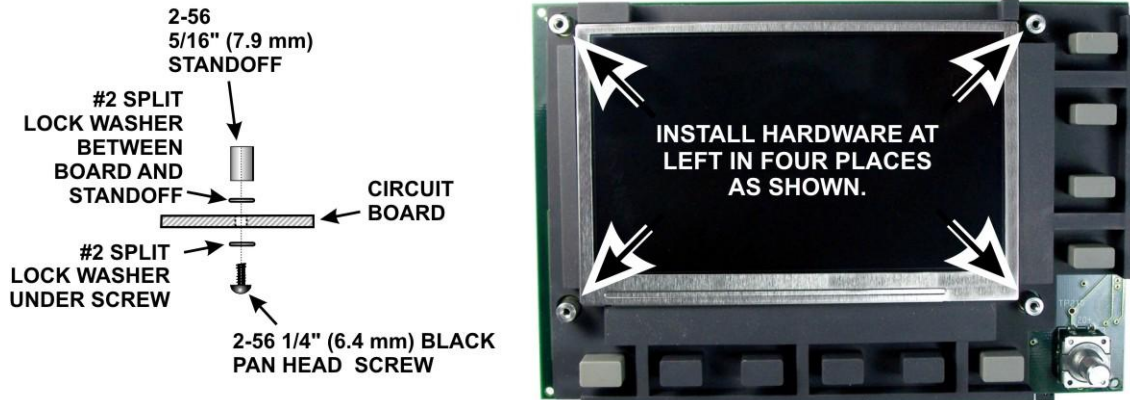

Figure 4. Mounting Standoffs on Front Panel Board.
- Mount four 2-56 5/16" (7.9 mm) standoffs on the front panel display board as shown in Figure 4. Be sure to place one lock washer between the standoff and the pc board as shown. This lock washer is important to establish the proper height of the standoff.